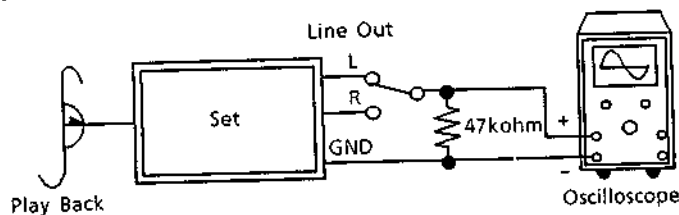

Figure 19
- (1) Make the connections as shown in figure 19 and turn the power ON.